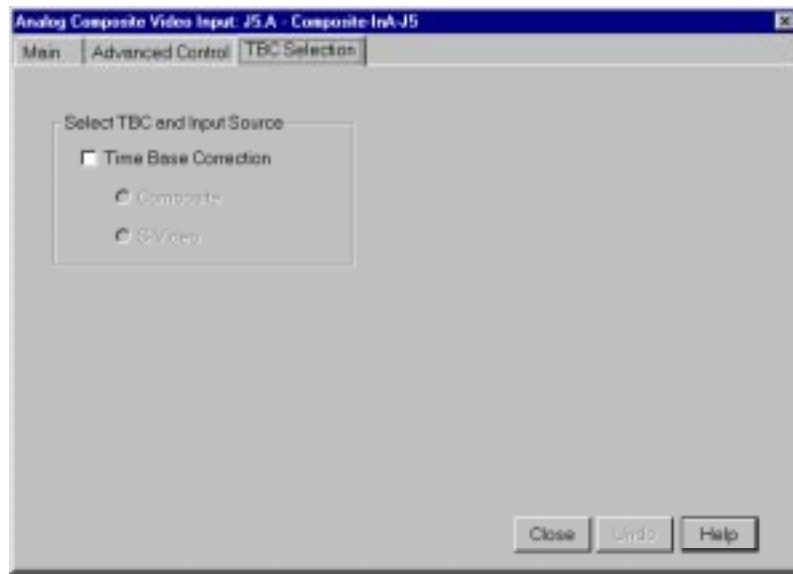

Figure 16. Analog Composite Video Input dialog box, Time Base Correction tab
1. Click the **TBC Selection** tab (see Figure 16).